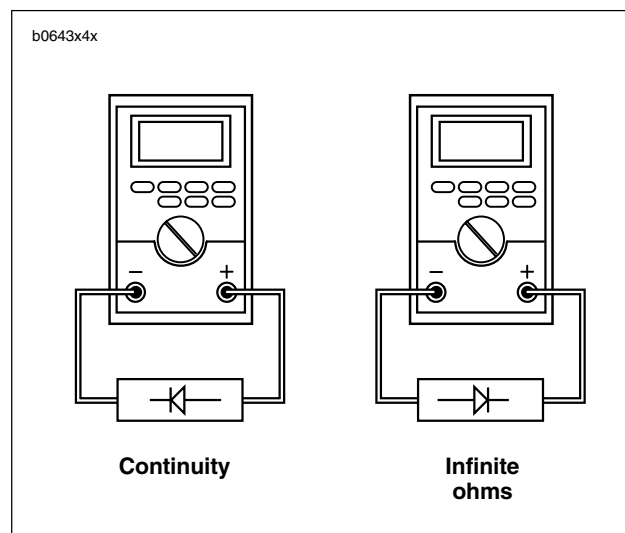

Figure 7-12. Ohmmeter Diode Test
1. Check diode with an ohmmeter as shown in Figure 7-12.